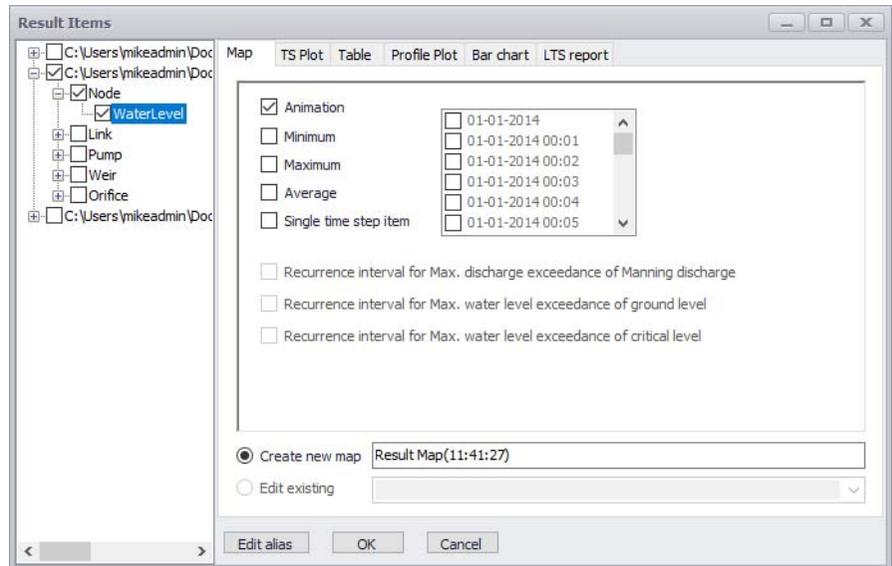

Figure 19.9 The Result Items dialog for creating result presentation documents
- The Result Items dialog appears offering various data presentation options for the result file (Figure 19.9).